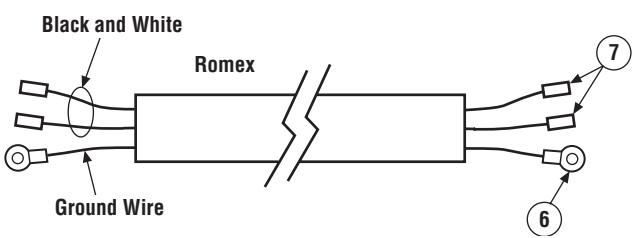

Figure 29 - Romex
- Refer to **Figure 29 on Page 23** and install the electrical hardware on the ends of the Romex wiring. Male terminals on the Black and White wires, and ring terminals on the ground wire.